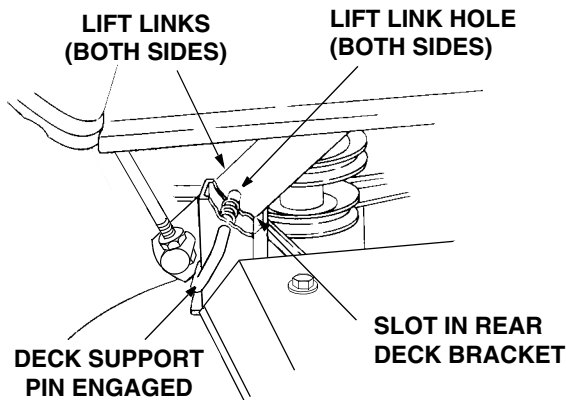

Figure 34
10. Carefully guide the tractor implement lift links (left and right) into the rear deck bracket slots (left and right) as the tractor implement lift handle is lowered to its lowest setting (Refer to Figure 34).
11. Pull both deck support pins outward and rotate rearward to disengage the outer surface of the rear deck brackets. Release the pins, making certain each deck support pin passes through the inner hole of the rear deck bracket. The spring tension will push the pins inward and, if aligned, through the hole in each implement lift link (Refer to Figure 34).